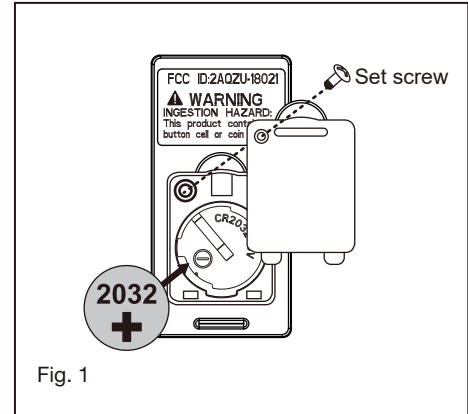

Fig. 1
1. Insert the receiver into the ceiling mounting bracket with the flat side of the receiver facing the ceiling. (Fig. 1) For best performance, make sure the Black Antenna and WIFI Antenna, on the end of the receiver, remains extended and not tangled with any of the electrical wires.
- 1 Fasten blade to motor with provided blade screws and fiber washers. Repeat procedure for remaining blades. Make sure screws are **TIGHT!** Loose motor screws can contribute to unnecessary hum during operation. (Fig. 1)
- 1 While holding the LED assembly under your fan, make the polarized plug connections: (Fig. 1)
- 5 While holding the Lamp shade under your fan. (Fig. 1)
- 6 Raise the Lamp shade against the fan and turn clockwise until snug, DO NOT OVERTIGHTEN. (Fig. 1)
- 1 Select a desired location. Use the wall plate to mark the location of the mounting holes. Plastic wall anchors or mounting screws are needed for this application. (Fig. 1)
Remove the panel from the transmitter and then install one 2032 battery (included). You need to use a screwdriver to open or close the battery cover. To prevent damage to transmitter, remove the battery if not use for long periods of time (Fig. 1)